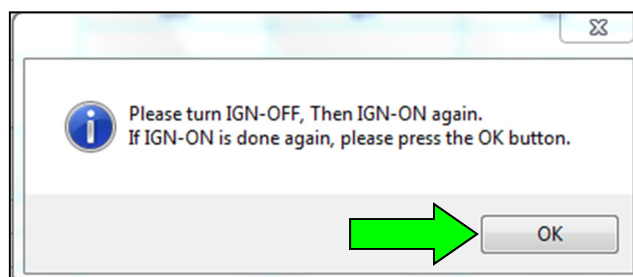

Figure 9
15. When the screen in Figure 9 displays, turn OFF the ignition, and then turn ON the ignition.
- The 75-zero reset process will run for about another seven (7) seconds.